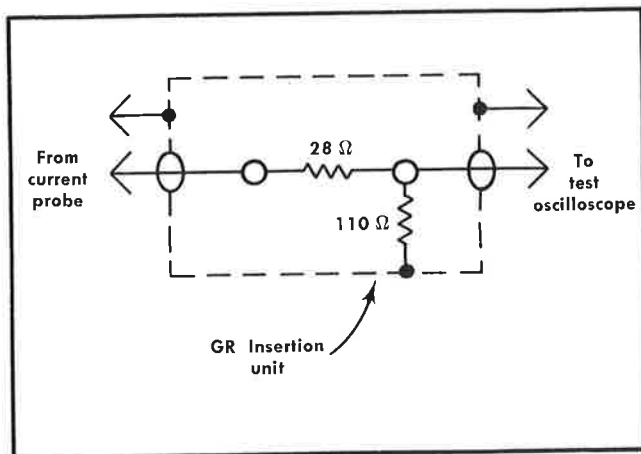

Fig. 5-2. Impedance matching network constructed in GR insertion unit.
To eliminate interaction of current probe and termination adjustments when performing calibration, the probe is adjusted using a standard 50-ohm termination. However, a special impedance matching network must be constructed to match the 62.5-ohm probe cable to the 50-ohm termination. Using a GR insertion unit, construct the network shown in Fig. 5-2. Mark the insertion unit for direction and place the cover over the openings.
d. To the input of the test oscilloscope, connect a 50-ohm GR to BNC termination, a 50-ohm GR 2× attenuator, the insertion unit (see Fig. 5-2 for direction), a GR to BNC female adapter, and the P6021 Current Probe. Clamp the probe around the conductor in the Calibration Fixture and move the slider all the way forward.